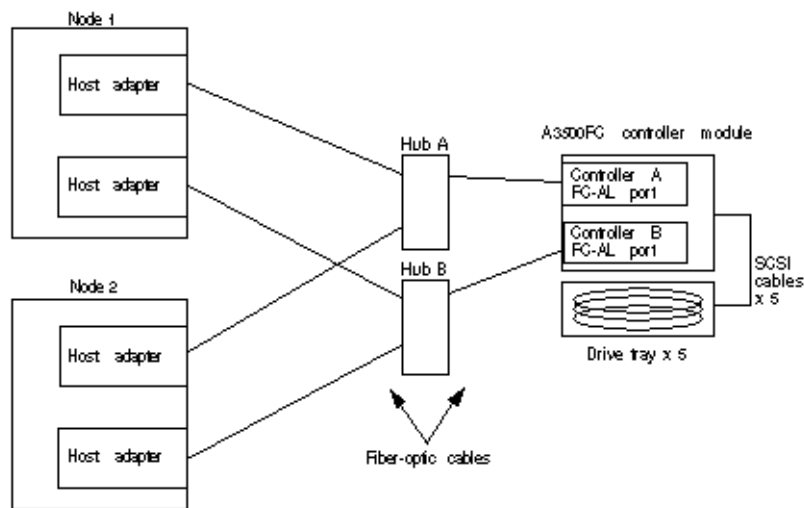

FIGURE 1-2 Installing a StorEdge A3500FC Storage System: An Example
- See Figure 1-2 for an example about how to cable a StorEdge A3500FC system.